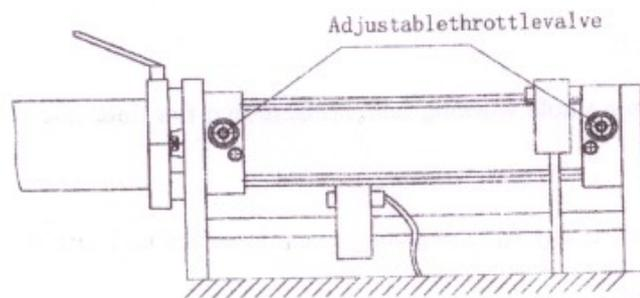

Fig2
C. User can adjust the filling speed according to its discharging speed and impact force in order to get the satisfactory filling quality and higher operation efficiency. Usually, it's recommended to accelerate the filling speed when it feeds and slow down when it fills. For detailed methods please refer to (fig.2).